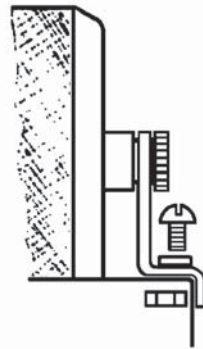

fig. 2
- II. Adjust the position of the guide so the slot is centered on the groove. Tighten the screw securely with the nut provided. (figure 2.)